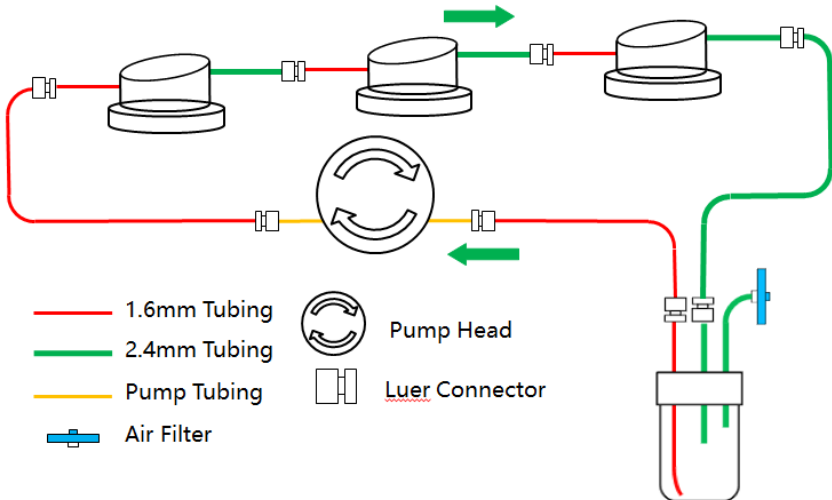

Figure 1. Example of the QV500 circuit with three chambers.
3. Construct your Quasi Vivo® circuit, working around the circuit from the pump tubing in the direction of flow using the correct sized tubing, as indicated in fig. 1.